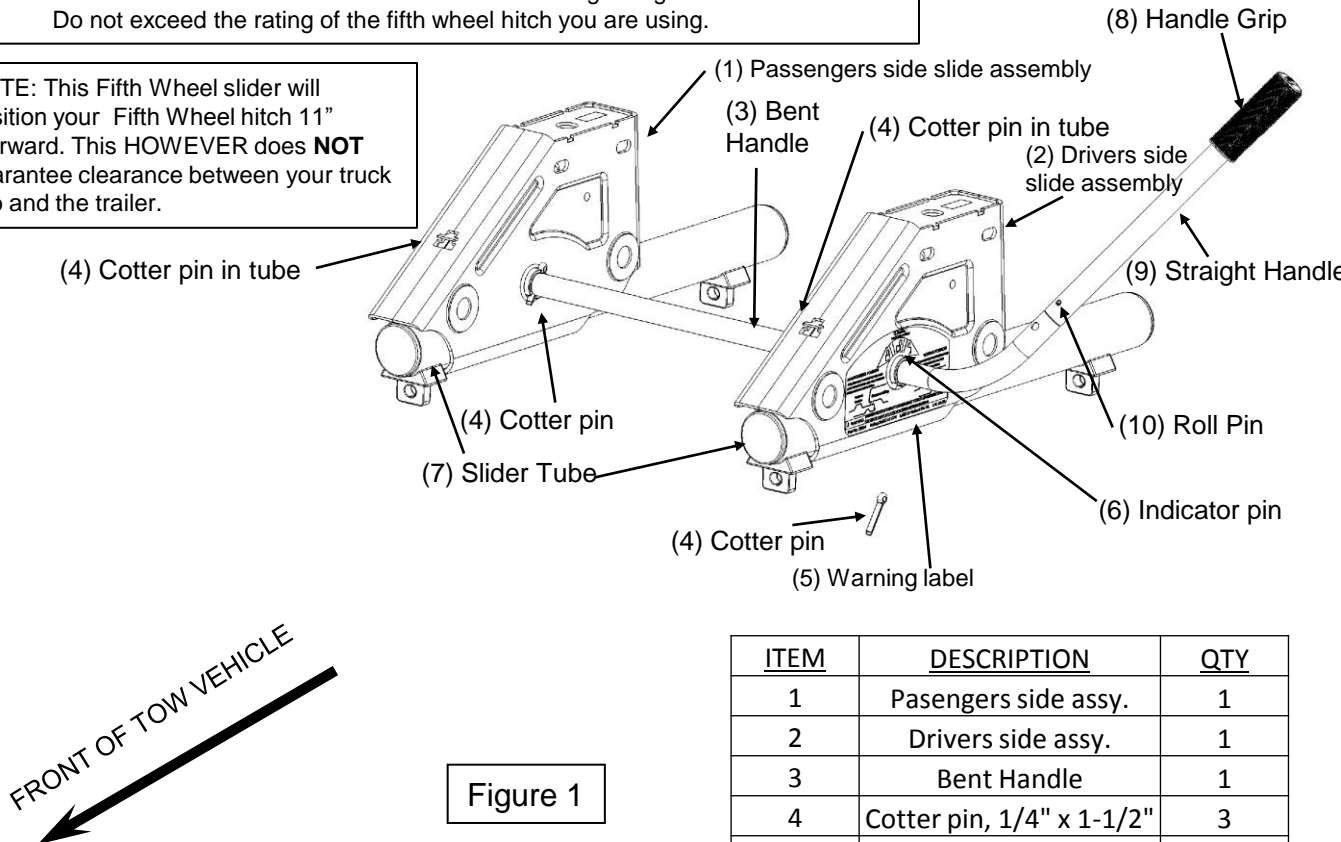

Figure 1
1. These instructions should be used to mount the REESE™ FIFTH Wheel Slider. Care and attention to detail will ensure a quick, safe and quality installation. Check parts against Figure 1 to become familiar with kit.